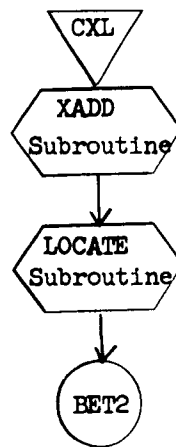

Figure 7.10 CXL
7.2.3.7 CXL LOCATE COMMAND (Figure 7.10)